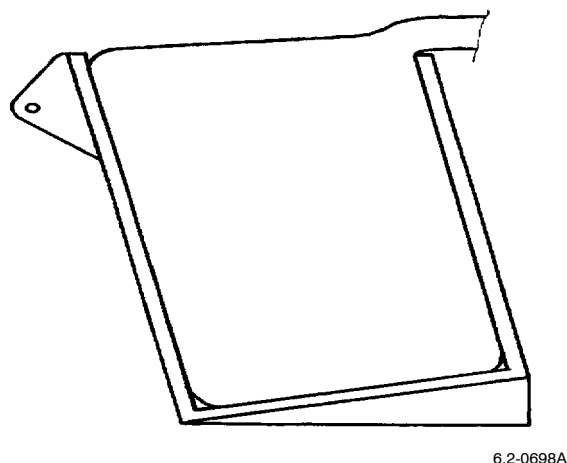

Figure 48. Stowing Deployment Sleeve - Stage 2
c. Fold forward and lay the sleeve over the forward edge of the container (Figure 48).